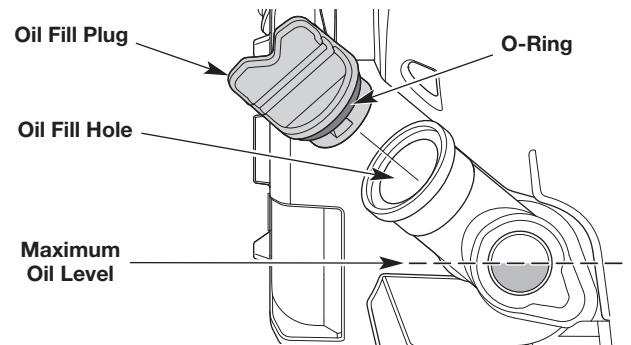

Fig. 20
3. Look into the oil level window; use a flashlight if necessary. **The oil level should fill the window approximately halfway** (Fig. 20). If the oil level is too low, add oil. Refer to *Adding Oil*.
1. Clean the area around the oil fill plug (Fig. 20) to prevent debris from entering the oil fill hole.
3. Add oil to the oil fill hole until the oil level is approximately halfway up the oil level window (Fig. 20).
NOTE: Make sure the O-ring is in place on the oil fill plug (Fig. 20).